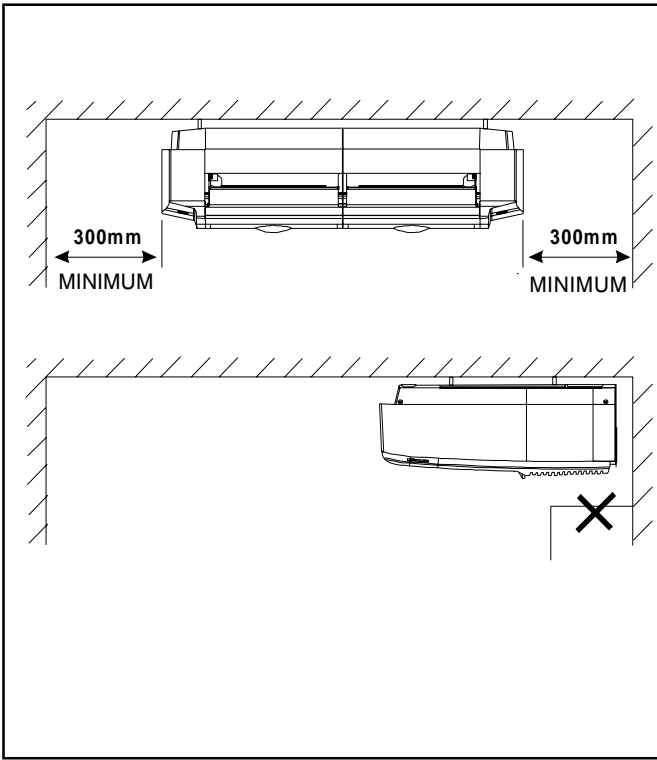

FIGURE 4 - UNDERCEILING INSTALLATION
- The unit should only be installed horizontally Underceiling, vertically on the floor (console mode) or on the wall (see fig. 4 and 5)
- The unit comes with two (2) brackets for Underceiling or on the wall installation. There is also a brace for assembly of the remote control.
OBS: After doing the evacuation, add positive pressure with R-22 so that the vacuum is broken (see fig. 4).